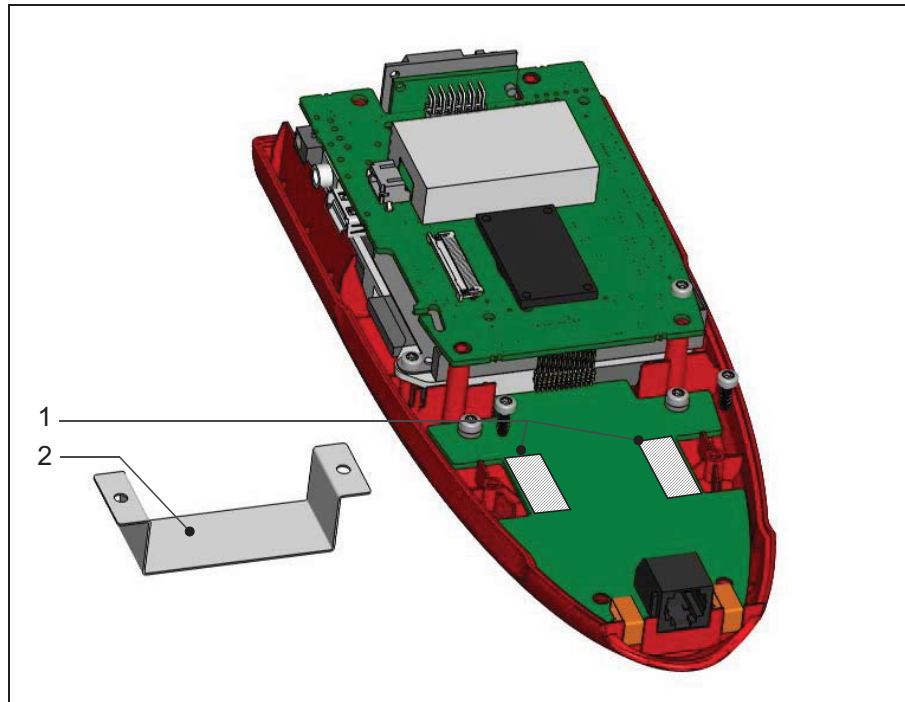

Fig. 38 Battery assembly with inserted cell rubber strips
- Place the provided cell rubber strips on the marked surfaces on the circuit board. (See shaded areas in Fig. 38.)